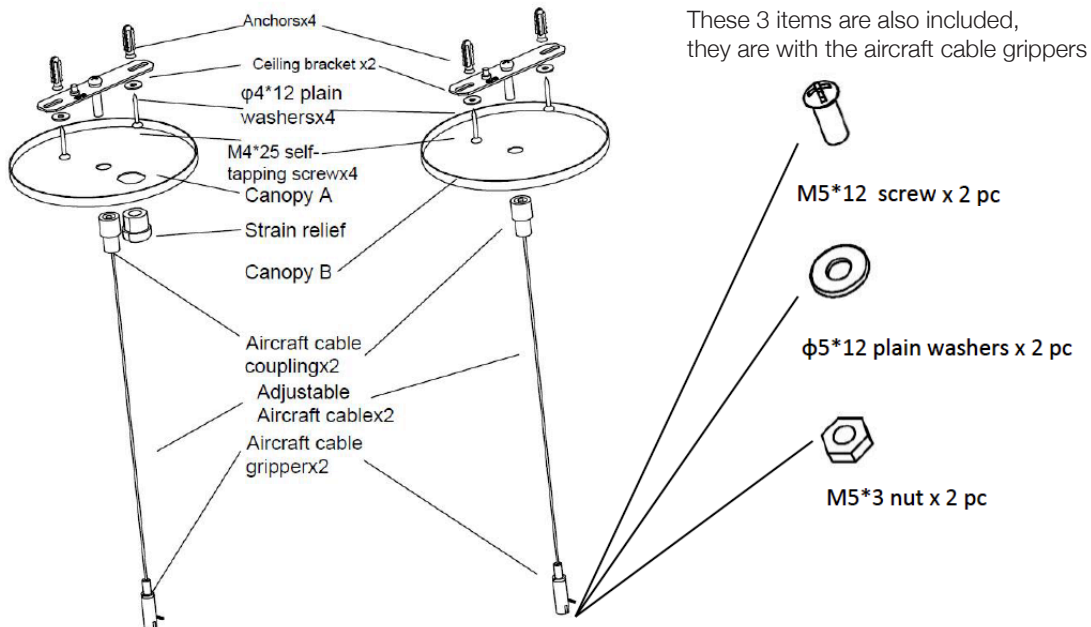
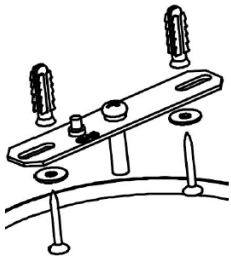

Fig. 3.1
Fig. 3.2
2. Fig 3.1 gives you an overview of the suspension kit. Detach the aircraft cable from the ceiling bracket and install the ceiling bracket to the ceiling with the provided anchors and washers. (Fig. 3.2) The distance between the center of the canopy is given in Fig 3.3.
3. Detach the aircraft cable from the ceiling bracket and install the ceiling bracket to the ceiling with the provided anchors and washers (Fig. 3.2). The distance between the center of the canopy is given in Fig 3.3.